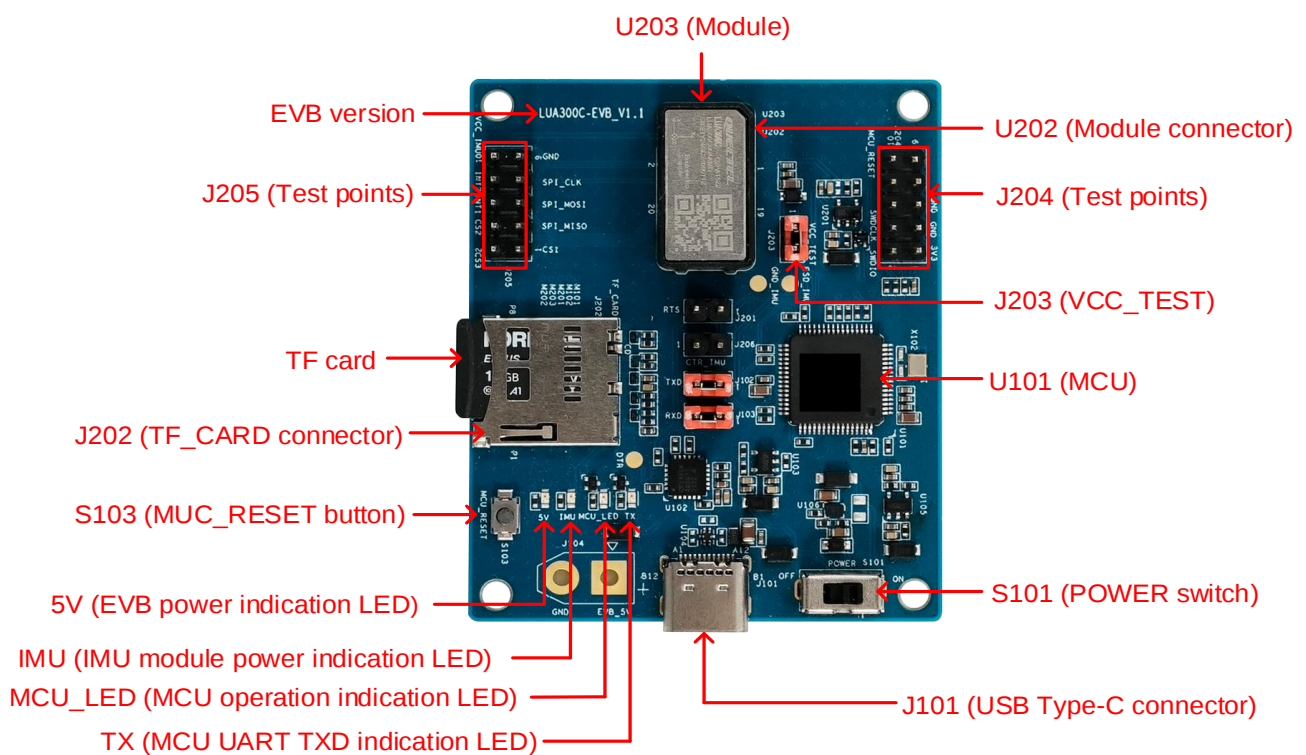

Figure 3: EVB Top View
- Verify if the jumper caps are connected correctly, as shown in Figure 3: EVB Top View.